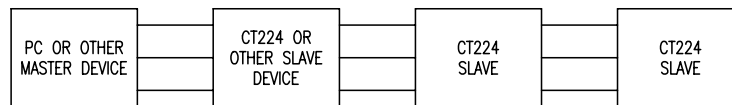

Figure 12 – Master Slave Chain
A network of CX224's should be wired so that the CX224's are in a chain. However, only devices using RS485 can be connected in this manner. RS232 will only allow one (1) device to be connected to a port, so RS232 devices cannot be used in a network. A star or ring configuration is **not** appropriate for RS485. Each CX224 should only be connected to at most 2 other CX224. Figure 12 shows the basic wiring for a chain configuration. Like terminals on the CX224's should be connected together in the chain, A to A, B to B, S to S.